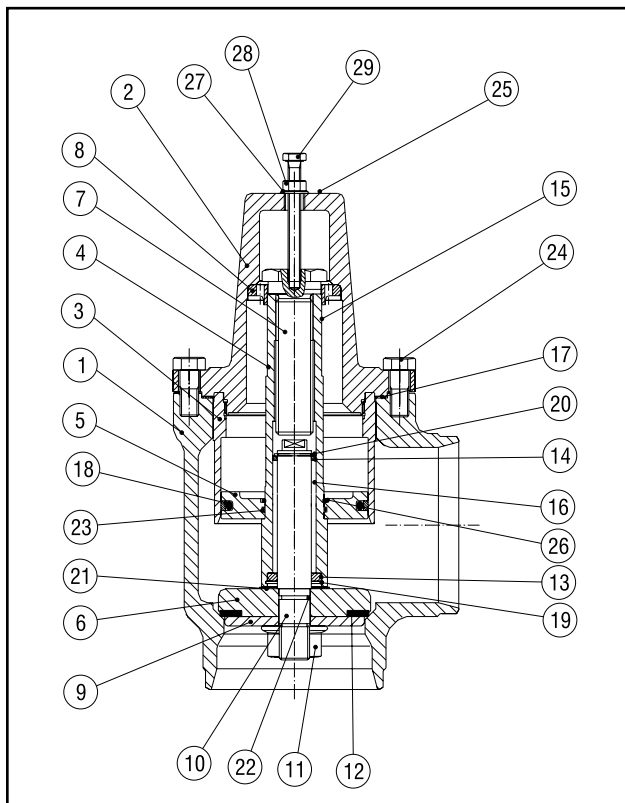

Figure 37 - Cold-Start Valve
**WARNING** Inside the valve (see Figure 37) there is a very heavy, tight spring (15). Provided the valve is intact, the spring presents no danger when dismantling. The spring is compressed with a large bolt (7). If it is necessary to repair the valve, it can be dismantled as follows:
1. To manually open the valve, mount the hexagon screw (29), the hexagon flange nut (28) and the nylon ring (27) as shown. Tighten the nut (28) a few turns, in order to redraw the valve cone from the seat.
2. Loosen the screws (24) by 0.315 in (8 mm), and ensure that the bonnet (2) is not under pressure from the spring.